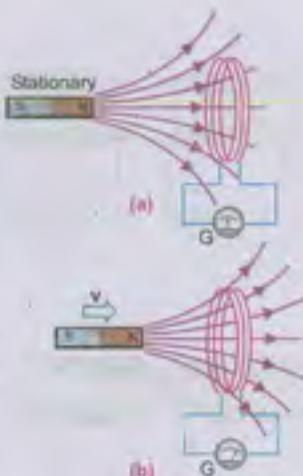

Fig. 15.2
- Fig. 15.2 (a) shows a bar magnet and a coil of wire to which a galvanometer is connected. When there is no relative motion between the magnet and the coil, the galvanometer indicates no current in the circuit. As soon as the bar magnet is moved towards the coil, a current appears in it. (Fig. 15.2 b). As the magnet is moved, the magnetic flux through the coil changes, and this changing flux produces the induced current in the coil. When the magnet moves away from the coil, a current is again induced but now in opposite direction. The current would also be induced if the magnets were held stationary and the coil is moved.